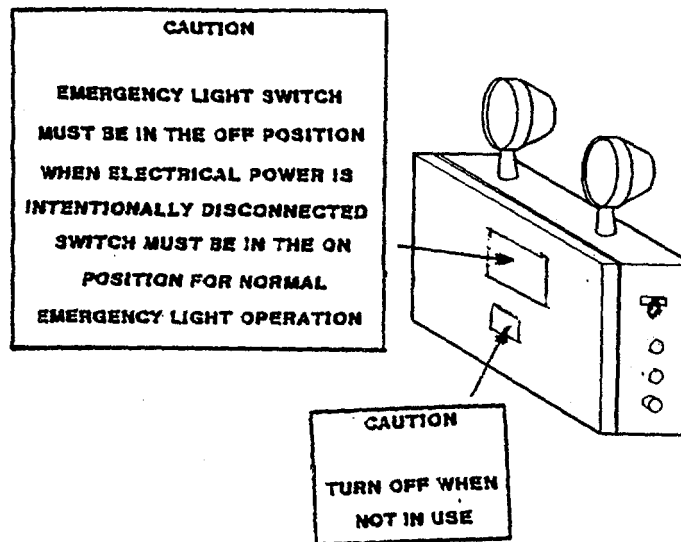

Figure 2-22. Emergency Light Decals
- e. Emergency Light. Figure 2-22 identifies decals for the emergency light.